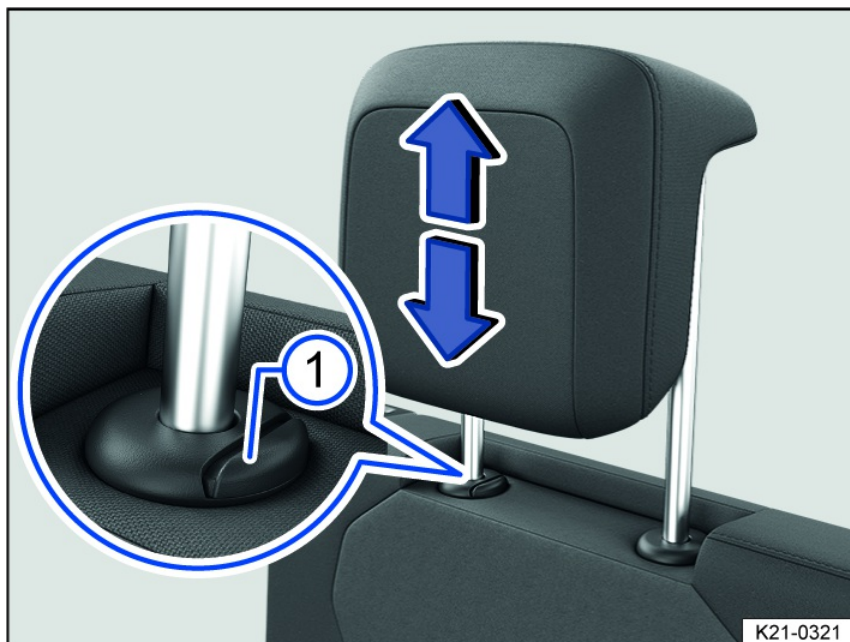

Fig. 84 General example: removing head restraints on the third-row seats.
3. Pull the head restraint all the way out while pressing the fig. 84 button.
3. Push the head restraint downward while pressing the fig. 84 button.